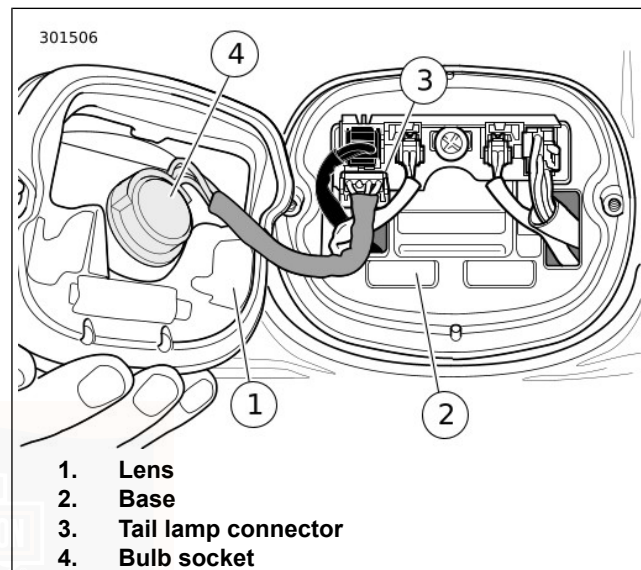

Figure 93. Tail Lamp Assembly
2. See Figure 93. Disconnect tail lamp connector (3).
3. Rotate bulb socket (4) a quarter turn counterclockwise and remove from tail lamp assembly. Remove bulb.
2. See Figure 93. Insert socket (4) into tail lamp assembly. Rotate a quarter turn clockwise.
3. Attach tail lamp connector (3).